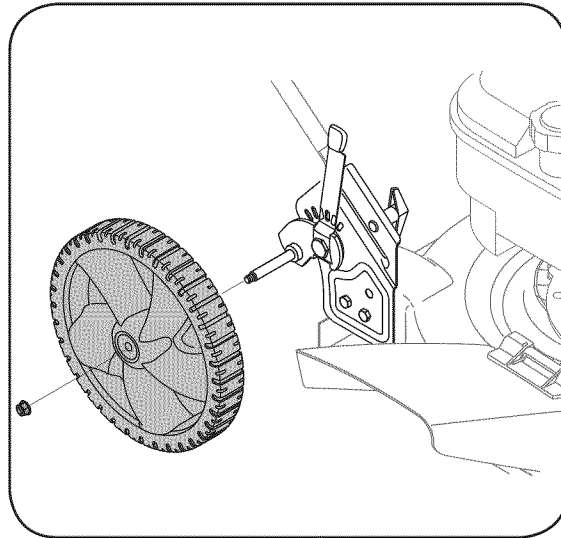

Figure 6
- b. Remove the lock nut from the pivot arm assembly (on select models, these may be included separately in a plastic bag), slide wheel, with hollow side in, onto pivot arm and secure with lock nut. See Figure 6.